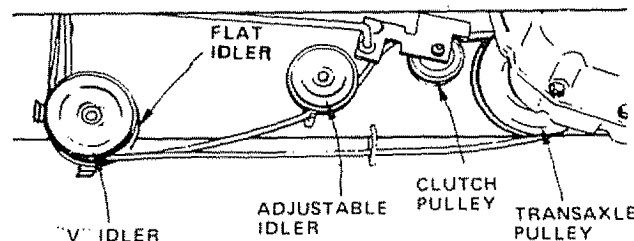

FIGURE 34
- e. Roll belt off "V" idler, flat idler and adjustable idler pulleys (Fig. 34).